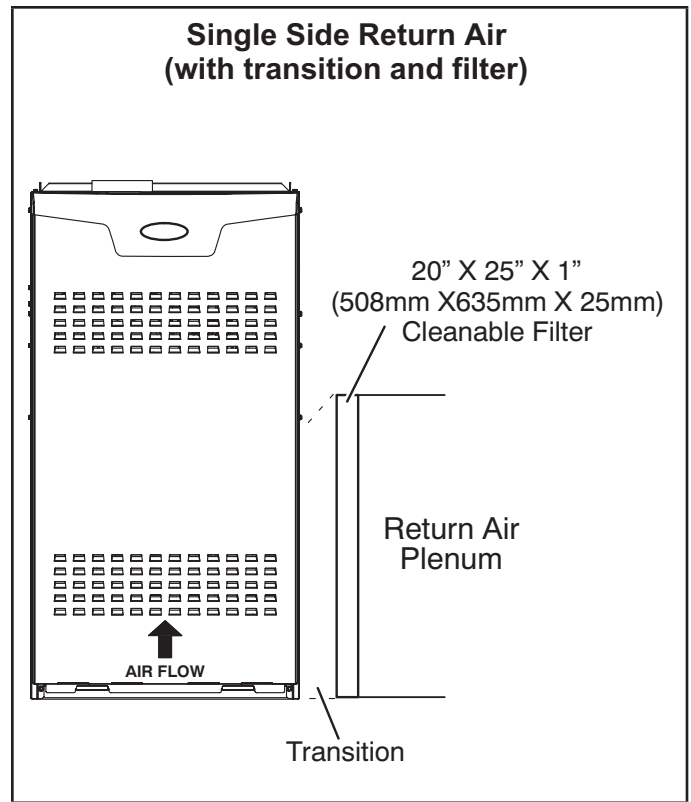

FIGURE 8
- 1 - Single side return air with transition to accommodate 20 x 25 x 1 in. (508 x 635 x 25 mm) cleanable air filter. (Required to maintain proper air velocity.) See FIGURE 8.